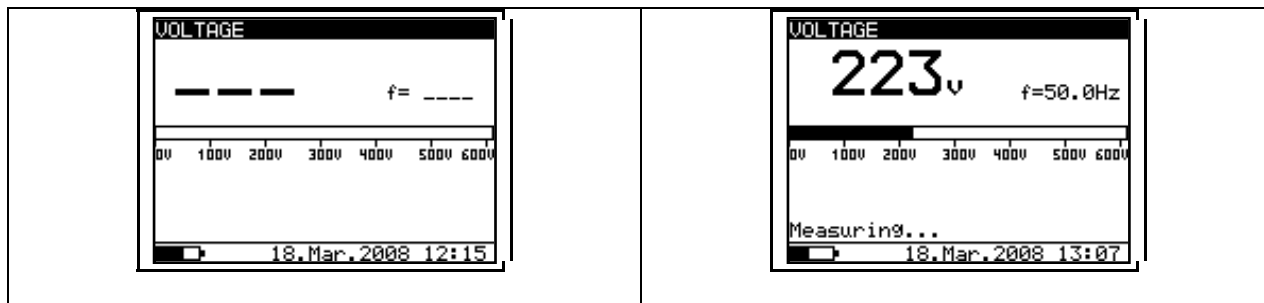

Fig. 10. Voltage function display states
Selecting this function displays the following states (initial state and state with results after completion of the measurement). See *fig. 10* below.
- The result (see the right picture in *Fig 10*) can optionally be saved by pressing the **MEM** key twice, see chapter 6.1. Store, Recall and Clear Operation.